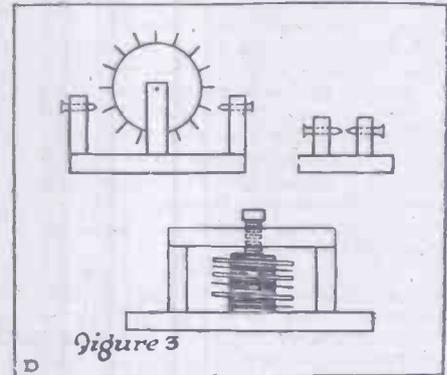

Figure 3
Fig. 3 shows how the various parts were made. It will be noticed that ordinary brass wood screws were used for the fixed electrodes of the trigger disc and spark gap, D. When making the trigger disc, care must be taken so that when one screw is opposite a moving electrode, the other screw is half-way between two.
now soldered to the top of one of the small contact studs as shown in Fig. 3. The diagram (Fig. 4) should now be consulted. This shows clearly the position of the two small contact studs (B B) and the stud with the shaped top piece (C) in relation to the particular tapping and contact stud under treatment. Washer and nuts should fix the moving piece (C) so that it does not rotate too freely. The tops of the two studs (B B) should be slightly rounded to obviate the moving piece catching and jamming when switching to the right. By means of the switch-arm make sure that the moving piece functions in the way desired, and that the two studs are properly disconnected when switching to the left.